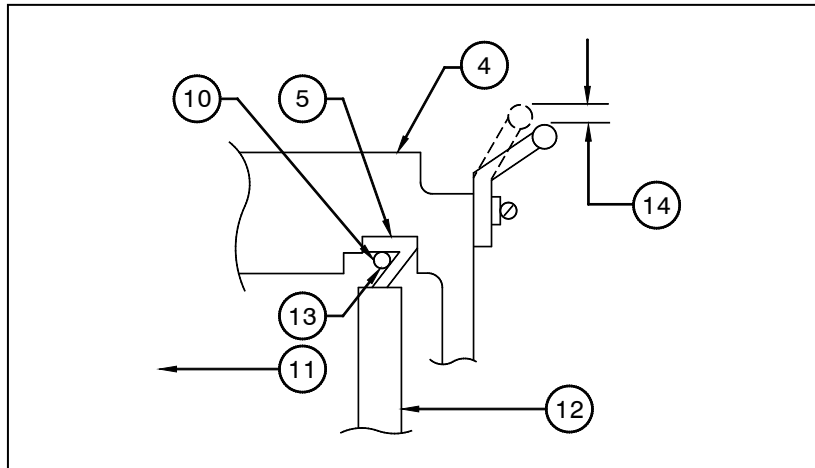

Figure 4.8b
- .6 Set the main gear (6) with bearing (7) in place in the base housing, lining up the bolt holes in the bearing with those in the main gear base, and orienting the loading plug as specified on the Drive Assembly drawing. Take care to prevent damage to the bearing.
- .7 Install and secure the capscrews (1) following the instruction above under items #3 and #4. Same capscrews as (2).
- b. Measure a seal for cutting by laying it in position on the housing or gear mounting surface, where it will be located. The sealing surface must be oriented as shown on the Drive Assembly drawing. Make a square cut on the end of the seal, leaving a slight overlap. Refer to the Assembly drawing and Figure 4.8b.
- d. Referring to Figure 4.8b, set the lip seal in place, except the last 12 inches of one end of the seal, making sure the seal lip is facing in the direction shown on the Drive Assembly drawing. Since bonding will take place within 45 seconds of contact, take care in setting the seal in place.
- g. Apply sealant (bonding agent) to the inside angle of the seal at the splice, for about 3" on both sides of the splice. Glue a 4" long piece of wire rope (part no. 88951C) in place, as shown in Figure 4.8b, centered on the splice.
- .9 Install the gear cage attachment (4) on the main gear. Secure the cap screws (3) in two stages and in a cross-diameter sequence. The final torque on all cap screws (3) must be 200 ft. lbs. lubricated (plus or minus 10 ft. lbs.).
- .10 Install the gear cage attachment to main gear cover plate lip seal with the band clamp, locating it on the gear cage attachment as shown in Figure 4.8b and the Drive Assembly drawing.